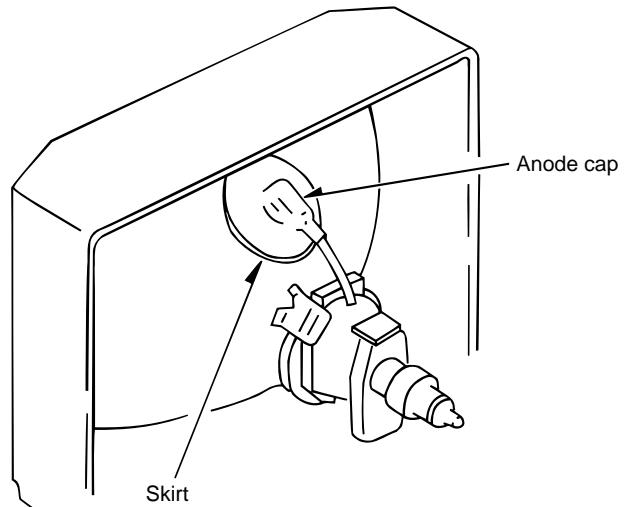

Figure 3-8
- (8) Pull the anode cap slightly with the rubber cap turned over and visually check that the hook is engaged securely.
- (9) Release your hand from the rubber cap of the anode cap.
- (10) Hold the skirt of the anode cap slightly to improve the close contact between the cap and CRT.
- (11) Check that the anode cap is in close contact with the CRT. (See Figure 3-8)